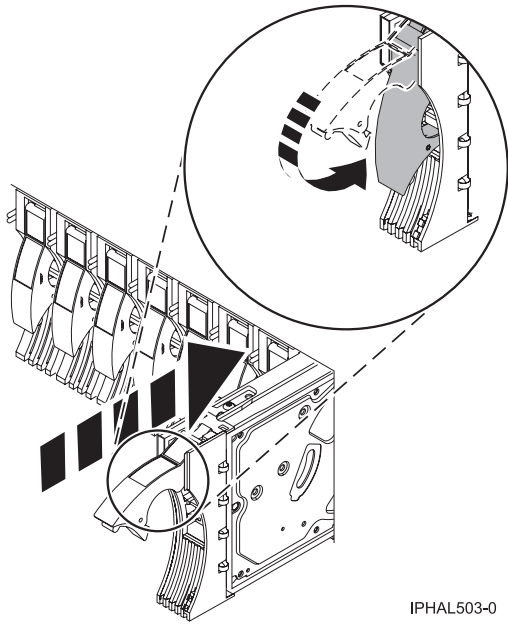

Figure 26. Installing a disk drive in a model
18. Slide the disk drive into the system unit until it stops, as shown in Figure 26 on page 36.